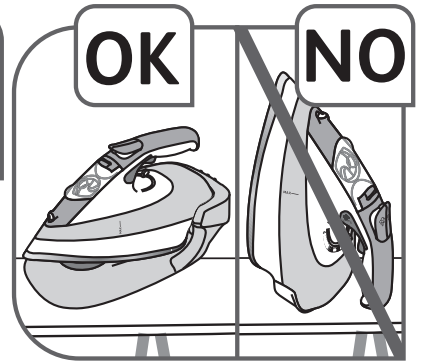

Fig. 13
- Do not place the iron on its heel during the resting period, but on its base – **fig.13**.